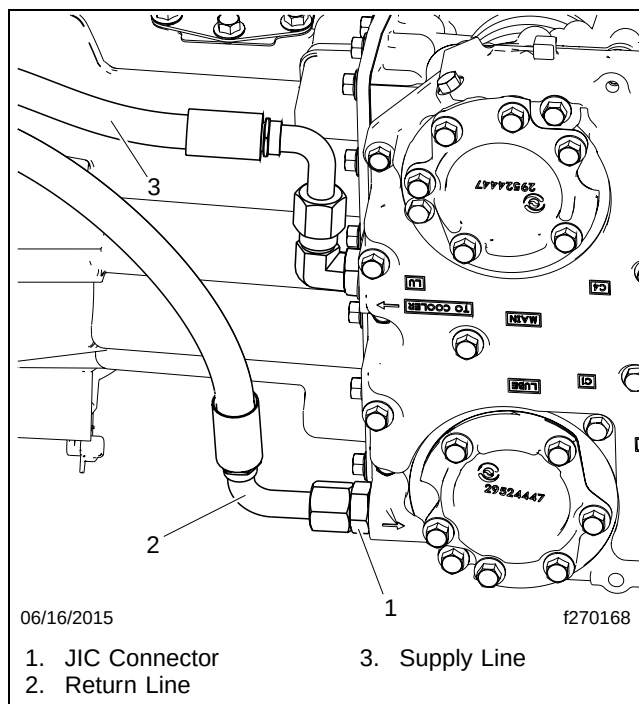

Fig. 1, Transmission Cooler Line Connections at the Transmission
5. Disconnect the transmission cooler return line (**Fig. 1, item 2**) from the transmission.